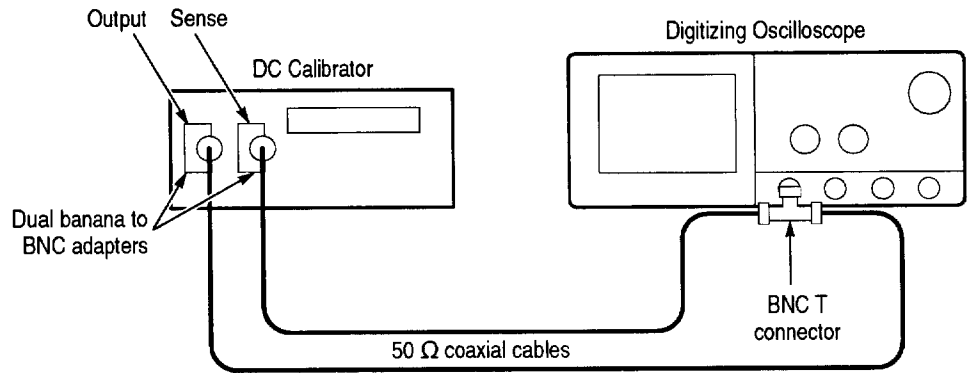

Figure 1–5: Initial test hookup
- Connect the output of a DC calibration generator through a dual-banana connector followed by a 50  $\Omega$  precision coaxial cable to one side of a BNC T connector. See Figure 1–5.
- Connect the Sense output of the generator through a second dual-banana connector followed by a 50  $\Omega$  precision coaxial cable to the other side of the BNC T connector. Now connect the BNC T connector to CH 1. See Figure 1–5.